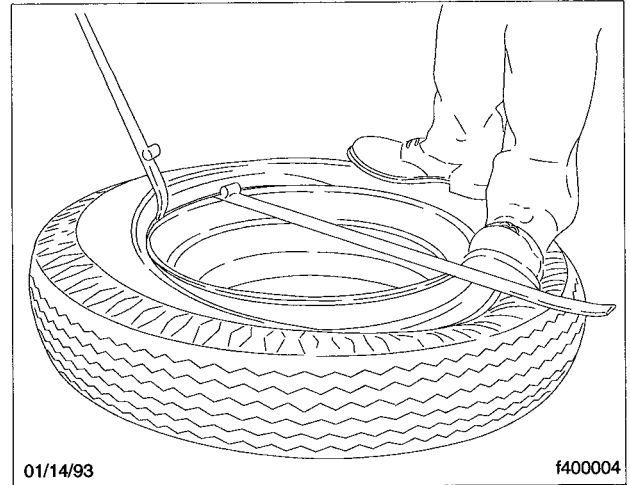

Fig. 3, Force the First Bead into the Rim Well
- 5.2 Place the wide side of the rim down. Lubricate the tire bead and the rim. Insert the curved end of two tire tools between the bead and the rim, and just to one side of the tire valve. Step on the side of the tire, opposite from the valve, to force the first bead into the rim well. See Fig. 3. Hold one of the tools in place with your foot and pry with the second tool, forcing the bead over the rim flange. Continue to work the first bead off of the rim.